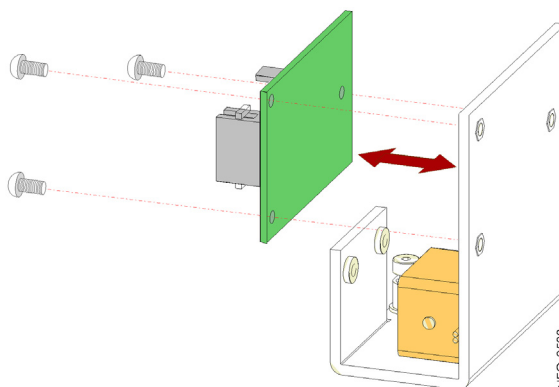

Figure 3-7: Mail Slot PWA Replacement
- Remove the **three screws** (M3x6mm) that hold the Mail Slot PWA to the Magazine Latch assembly (see Figure 3-7).